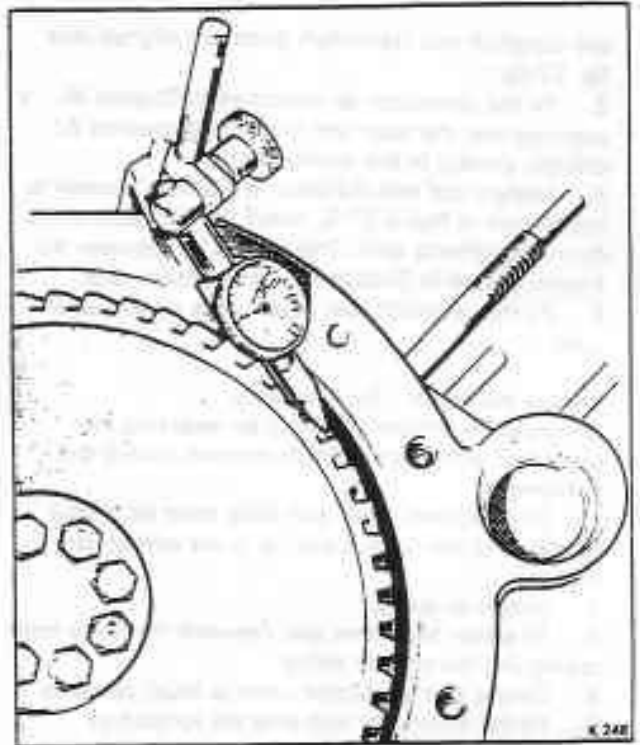

Fig. E7-9 Checking the timing gear backlash
7. Using a dial test indicator in a similar manner to that shown in figure E7-9, check the backlash of the distributor driving gear. This should be between the figures quoted in Section E3, Dimensional data.
4. Using a dial test indicator in a similar manner to that shown in figure E7-9, check the backlash of the distributor driving gear. This should be between the figures quoted in Section E3, Dimensional data.